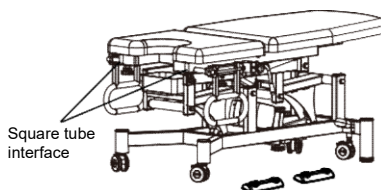
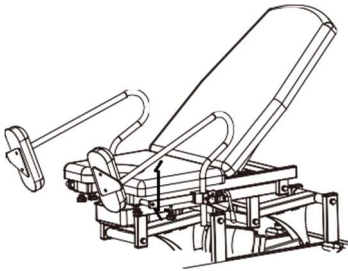

Figure 5
Figure 11
1. The table can have additional functions by installing three different components to the square tube interface of the table frame (as shown in Figure 5).
- Step 1: insert the leg support connector into the square tube (Figure 5). Tighten the knob ①.
Step on the left or right side of the foot switch (Figure 5) respectively to adjust the angle of the seat tilt. When the required angle is reached (Figure 11), release the button, and the table surface angle will be locked automatically.